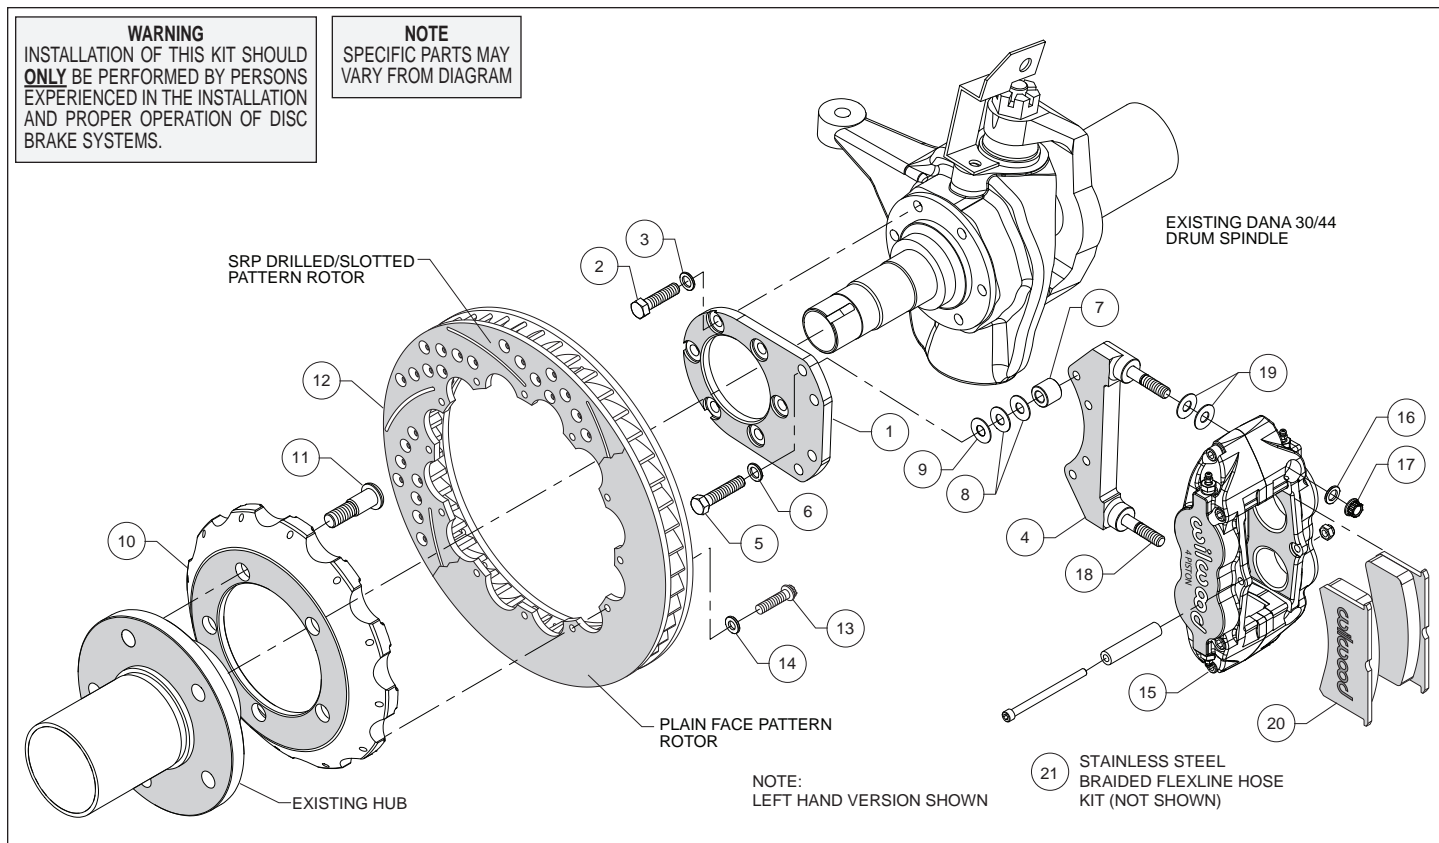
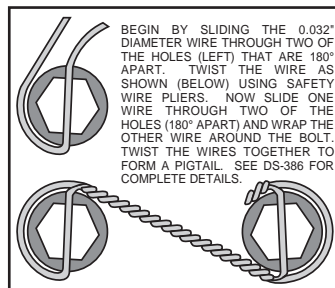

Figure 1. Typical Installation Configuration
Figure 3. Safety Wire Diagram
Assembly Instructions (numbers in parenthesis refer to the parts list and Figure 1 on the preceding pages):
- Orient the flat mount bracket (1) as shown in Figure 1 and Photo 1, and install using bolts (2), and washers (3). Ensure that the counterbored holes in the bracket are facing outboard, Figure 1. Temporarily tighten the mounting bolts. **NOTE:** *The bracket must fit squarely against the mount bosses on the upright.* Inspect for interference from casting irregularities, machining ridges, burrs, etc. Remove bolts one at a time, apply red *Loctite*® 271 to the threads and torque to 40 ft-lb.
- The caliper mount bracket (4) should initially be installed with clean, dry threads on the mounting bolts. Orient the bracket as shown in Figure 1 and Photo 2, and install using mount bolts (5) and washers (6). Initially place two .035" thick shims (8) and spacer (7) on each bolt between the flat and caliper brackets, Figure 1. Temporarily tighten the mounting bolts. Later, after the caliper alignment has been checked, the mount bolts will be secured using red *Loctite*® 271.
- Orient the hat (10) and the OEM hub as shown in Figure 1 and Photo 3. **NOTE:** *The hat must fit flush against the axle hub or excessive rotor run out may result.* Install the wheel studs (11) thru the holes in the hat and press into the existing hub. **NOTE:** *We recommend this procedure be performed by a qualified machinist.*
- Orient the rotor (12) and the hat/hub assembly as shown in Figure 1 and Photo 4. Attach rotor to hat using bolts (13) and washers (14). Using an alternating sequence, apply red *Loctite*® 271 to the threads, and torque to 155 in-lbs. For an added measure of security, the bolts may be safety wired using standard 0.032 inch diameter stainless steel safety wire as shown in Figure 3. Please refer to Wilwood's data sheet DS-386 (available at www.wilwood.com/Pdf/DataSheets/ds386.pdf) for complete safety wire installation instructions.
- Lubricate the caliper mounting studs (18) with lightweight oil. Initially place two .035" thick shims (19) on each stud as shown in Figure 1 and Photo 5. Mount the caliper (15) onto the bracket (4) using lock nuts (17) and washers (16), Figure 1. Temporarily tighten the lock nuts and view the rotor through the top opening of the caliper. The rotor should be centered in the caliper, Photo 6. If not, adjust by adding or subtracting shims (8 and/or 9) between the spindle bracket and caliper bracket. Always use the same amount of shims on each of the four mounting bolts. Once the caliper alignment is correct, remove the bracket to bracket mounting bolts (5) one at a time, apply red *Loctite*® 271 to the threads, and torque to 35 ft-lb.